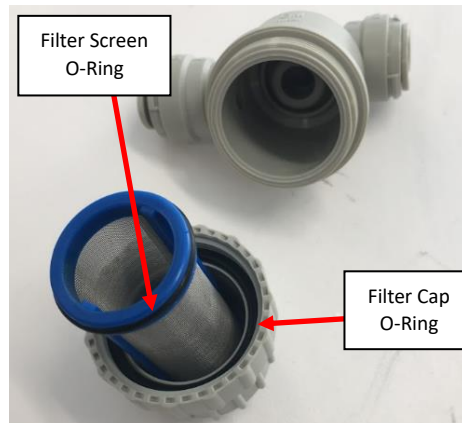

Figure 32: Filter O-Rings.
3. If leak is from filter, open the filter cap and verify all sealing O-Rings are installed. There should be one O-Ring on the filter cap and one O-Ring on the filter screen. If either O-Ring is missing, replace it before reinstalling the Filter Screen back into the unit. See **Figure 32**.